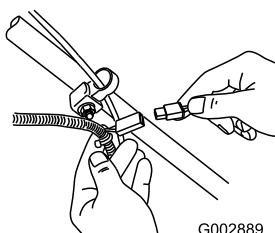

Figure 38
1. Connect the charger to the mower wire harness located below the ignition key (Figure 38).